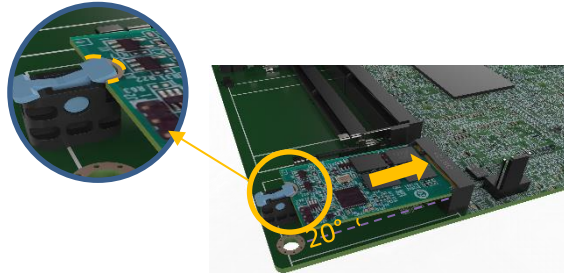

Figure 4-13: Securing the M.2 Module
Step 3: Press the M.2 module down until it is secured into place by the retainer. (See **Figure 4-13**)